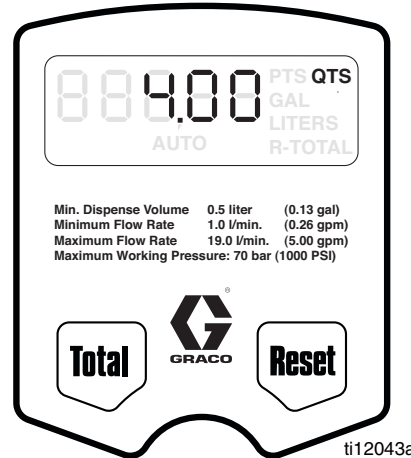

FIG. 16
*Fluid flow stops, and the amount you have dispensed is shown on the display (FIG. 16).*